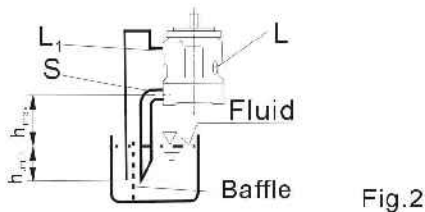

Fig.2
b) If the minimum fluid level is below the pump mounting face pipe port "L" and "S" according to Fig.2.
Before installation fill the pump housing, keeping it in a horizontal position. For mounting above reservoir see Fig.2.